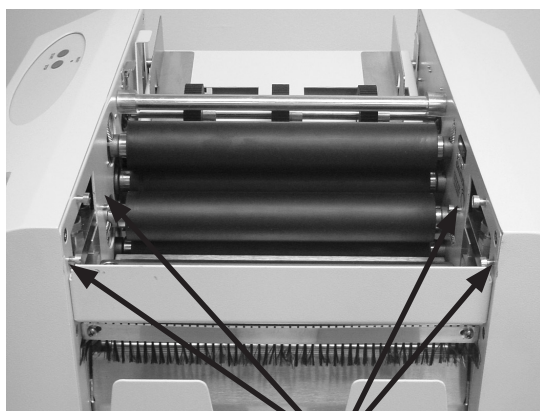

Figure 5a
4. To reinstall the upper fold plate, slide the plate (with thumbscrews facing up and the throat toward the inside of the machine) until the grooves on the underside line up with the four pins on the machine (figure 5a & 5b).